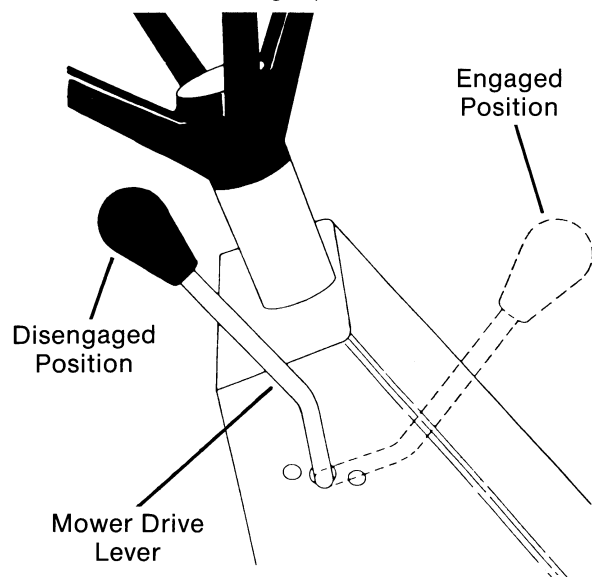

FIG. 9
B. Pull the mower drive lever to the disengaged position. (Fig. 9)
- C. Push mower drive lever to the engaged position. (Fig. 9)
- Move mower drive lever to the engaged position. (Fig. 9)